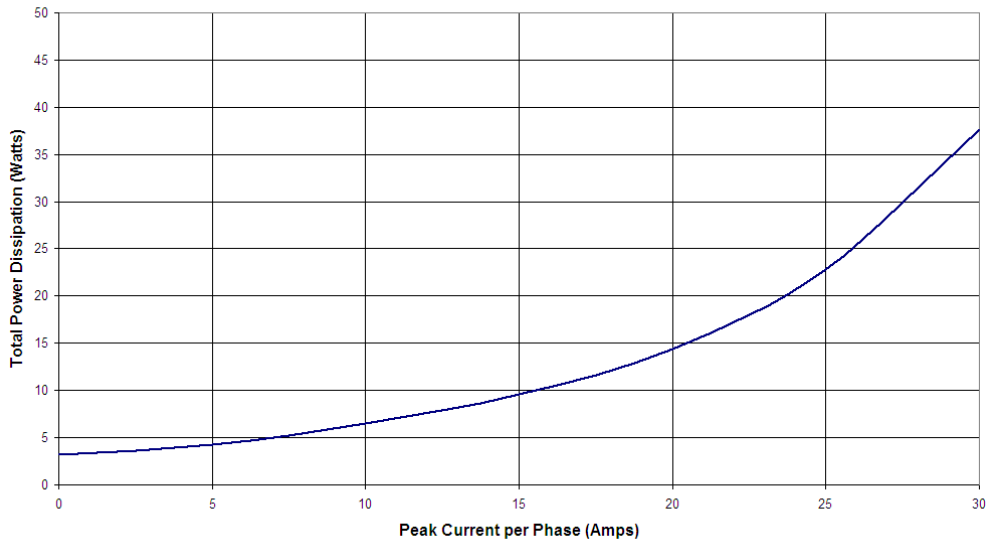
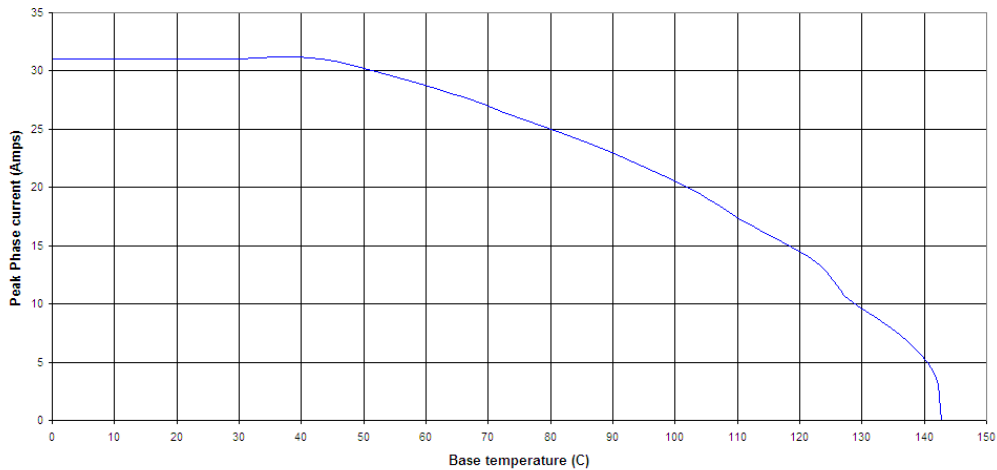

Figure 3-8. DPFlex's power dissipation
Figure 3-9. DPFlex's safe operating area
¹ Refer to the power dissipation curve shown in Figure 3-8 to properly heat-sink the drive
- Heat sink the DPFlex drive, using the power dissipation curve shown in Figure 3-8 to guide the heat sink's design.
DPFlex generates heat as its consumption of power increases. Use the graphs in Figure 3-8 and Figure 3-9 below to determine safe operation.